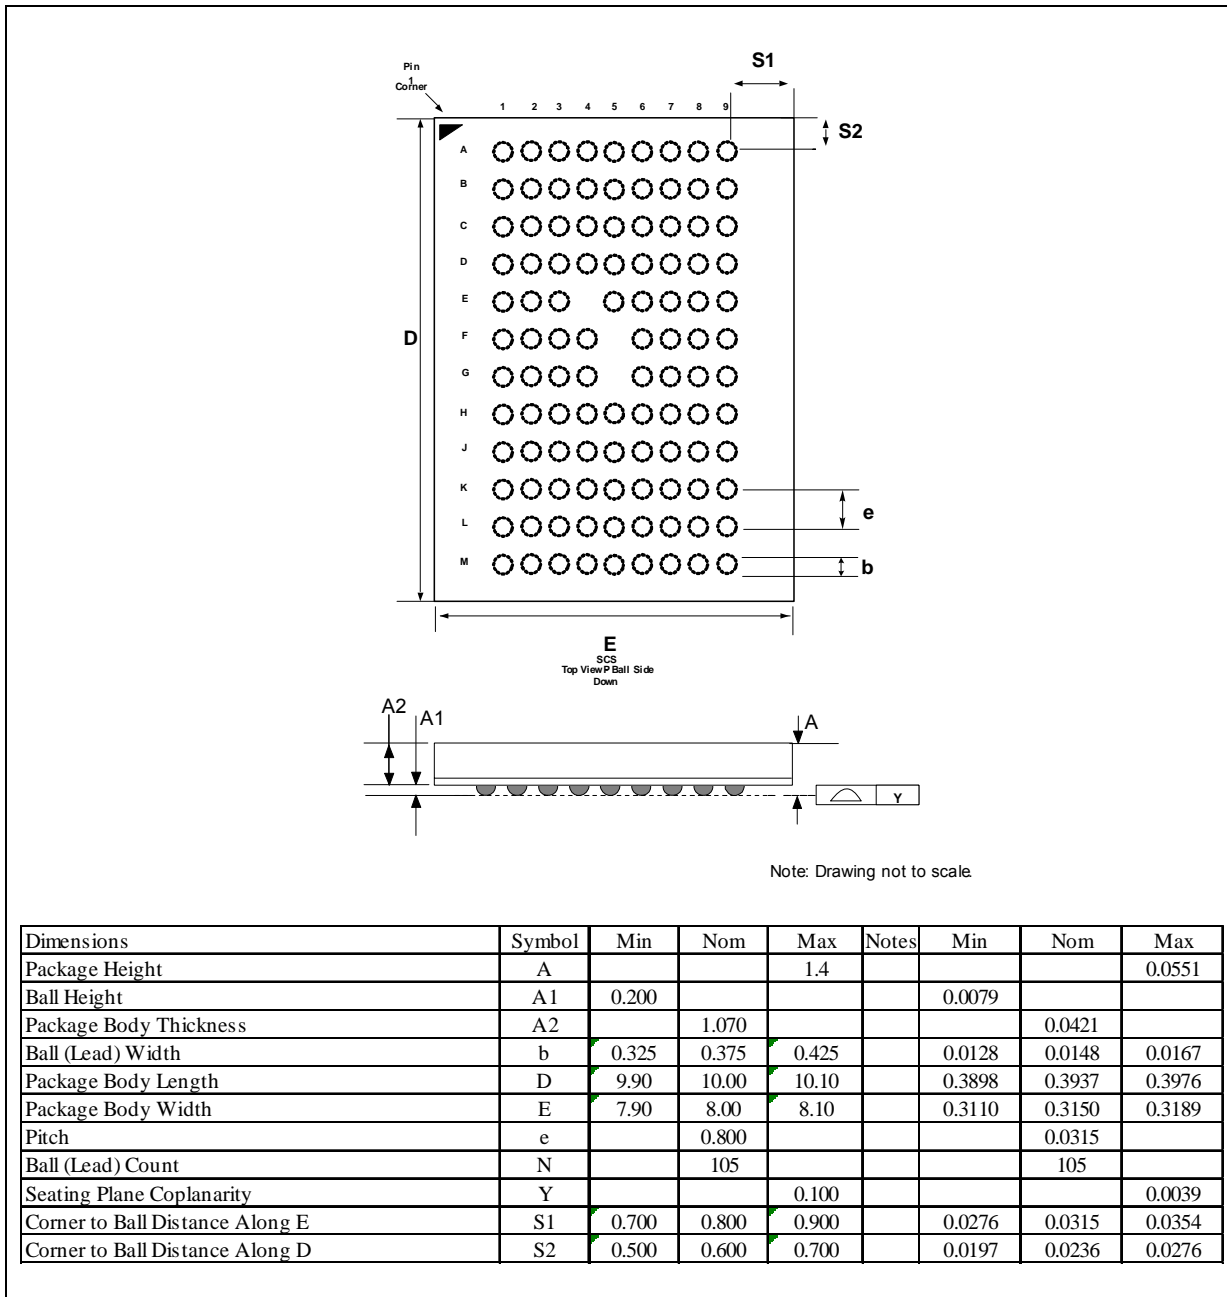

Figure 3. Mechanical Specifications for x16D (105-ball) package (9x11x1.2 mm)
- Figure 3, "Mechanical Specifications for x16D (105-ball) package (9x11x1.2 mm)"